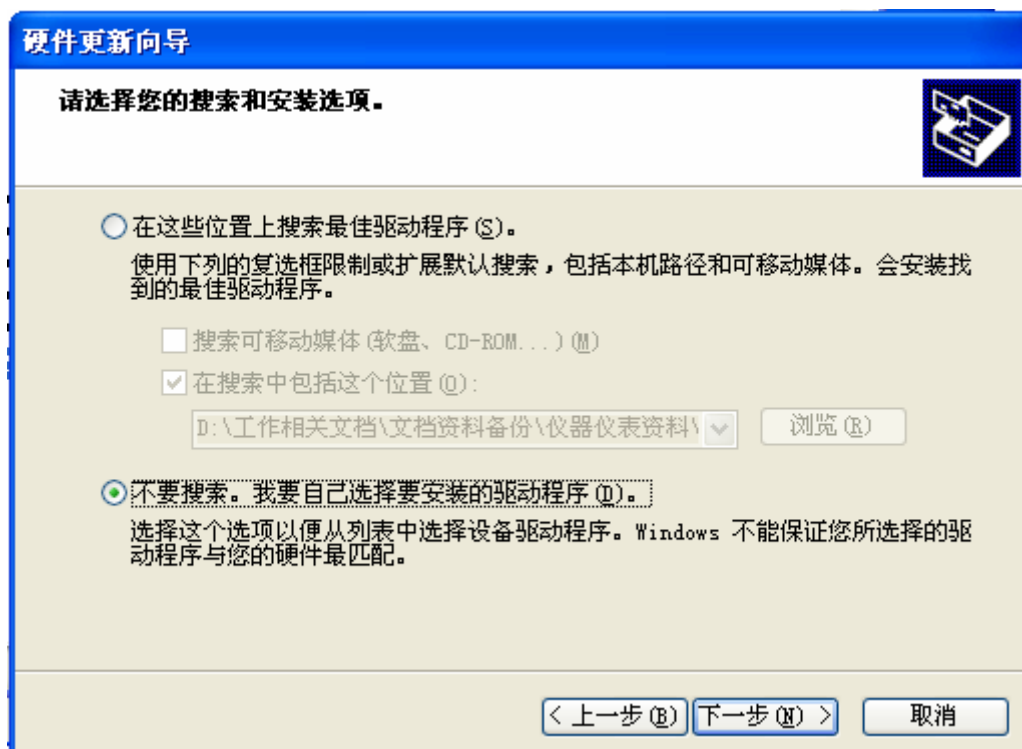

Fig. 5
- c) Select item "**Don't search. I want to install driver by myself (D)**", then press button "**Next**", please refer to Fig. 5;